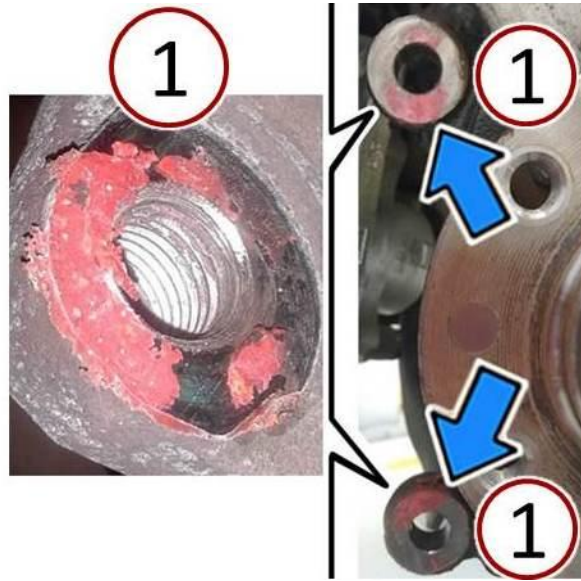

Fig. 6 Clean Off Excess Sealant
13. Clean all the sealant (1) from the contact surfaces between the brake calliper adaptor bracket and the steering knuckle (Fig. 6).